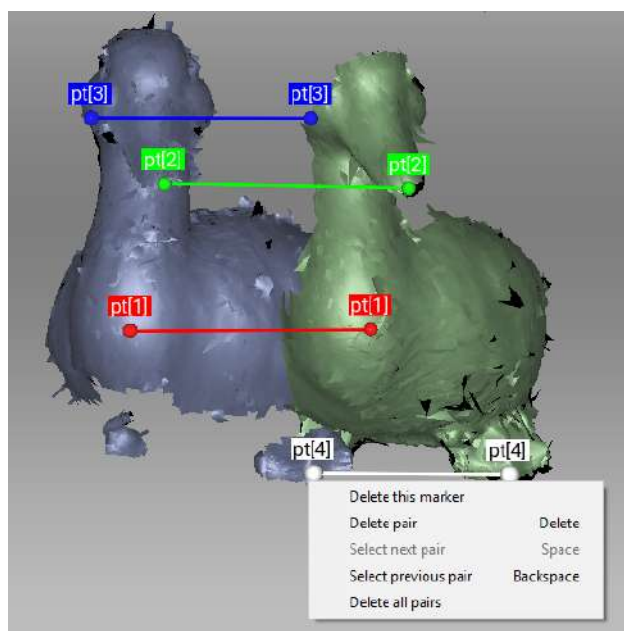
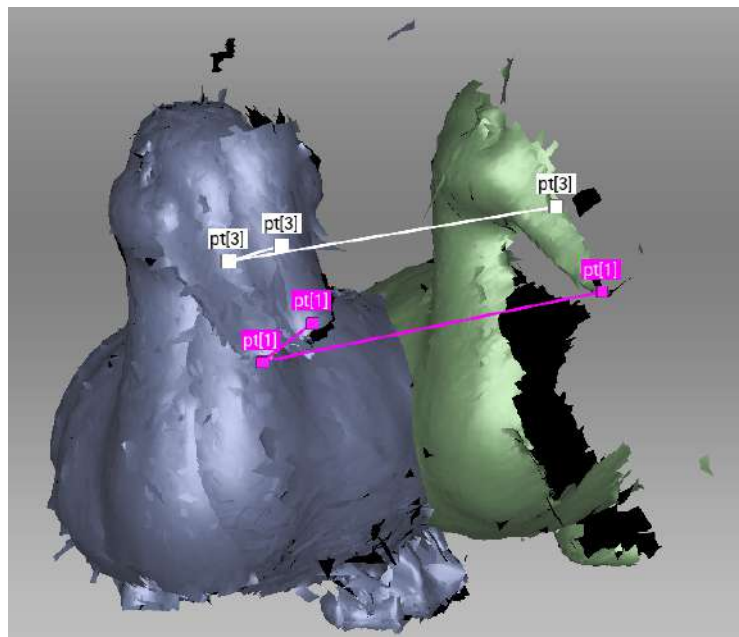

Figure 82: Creation of point pair.
Figure 88: Before alignment: two point-set added.
When specifying points in the *Rigid* and *Nonrigid* modes, the application automatically creates pairs. Having specified one pair, you can immediately create the next one. In *Complex* mode you must confirm set creation by hitting **Space** or by clicking *New set* from the left panel, because the set may comprise multiple points (see Figure 82 and Figure 88).
3. Specify several point pairs (Figure 82), keeping in mind the recommendations from *Specifying Points and Editing Their Positions*.
3. Specify one or more point sets on the scan surface (see Figure 88), keeping in mind the recommendations in *Specifying Points and Editing Their Positions*.